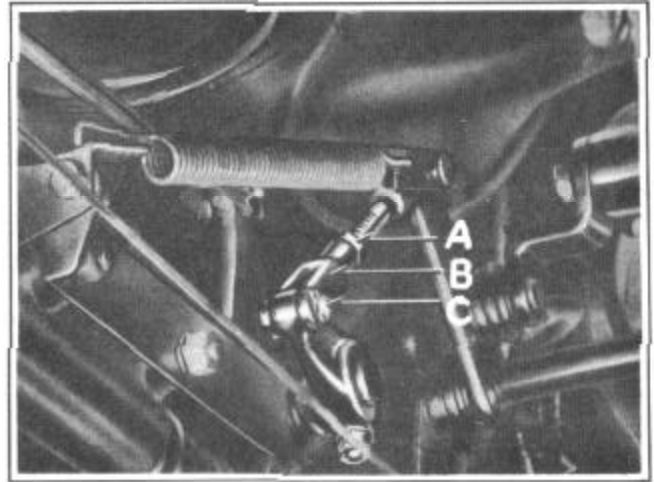

FIGURE 17
- A. Loosen lock nut (A) Figure 17.
- B. Remove cotter pin and clevis pin (C).
- C. Turn clevis Yoke (B) to increase or decrease length of rod for proper pedal clearance.